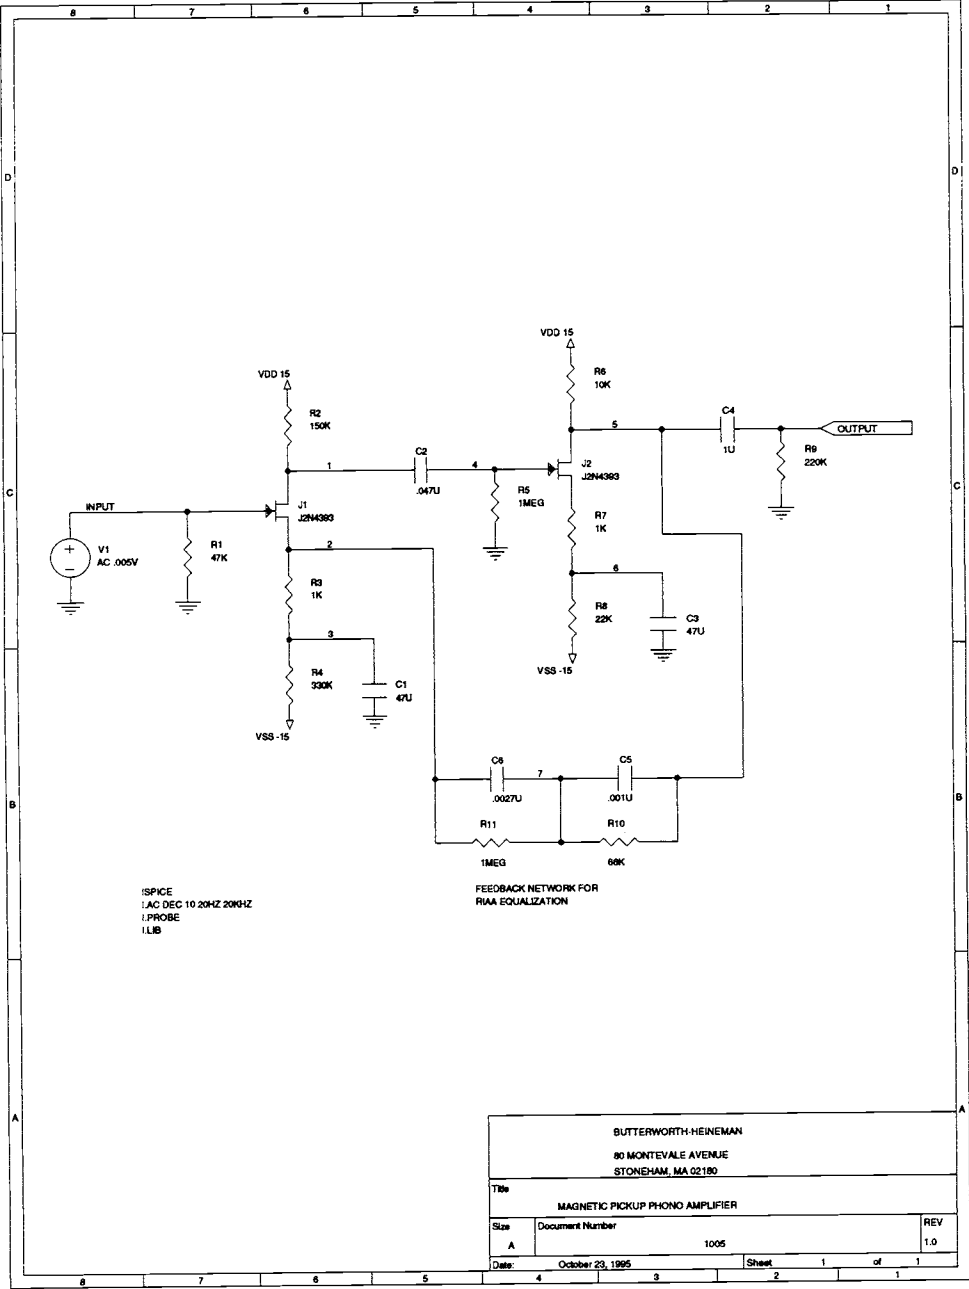

Figure 9-1 Amplifier Circuit for SPICE Simulation
- **Inputs and outputs.** SPICE circuits must be completely self-contained. Inputs are excited via a voltage or current source with an associated waveform definition. Outputs are measured across a load impedance, such as R9 in Figure 9-1. The OUTPUT module port is merely used for convenience, to establish the node name.
Use the circuit shown in Figure 9-1 as the model for this tutorial. Start by creating a new design called TUTOR7, based on the standard template. Use the OrCAD Design Management tools as for the previous tutorials. Then select TUTOR7 and launch OrCAD SDT.
Complete the schematic shown in Figure 9-1. You must retrieve all the parts from the PSPICE.LIB library. Up to now, you have probably used the CUSTOM.MAC macro commands to place common objects and discrete parts. Not all of the macros will work since some of the SPICE part names are different. If you plan on creating many designs requiring SPICE simulation, you may want to write a special SPICE macro.